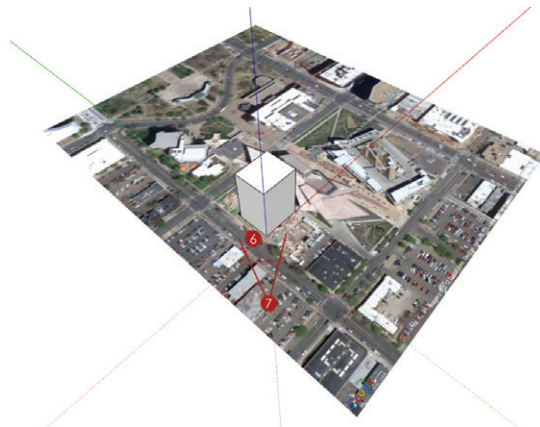

Figure 16.9 Set the origin at the front-bottom corner of the building based on the photograph you are using for Match Photo.
7. Within SketchUp, position yourself in a view similar to the photograph you are using for Match Photo (Figure 16.9).